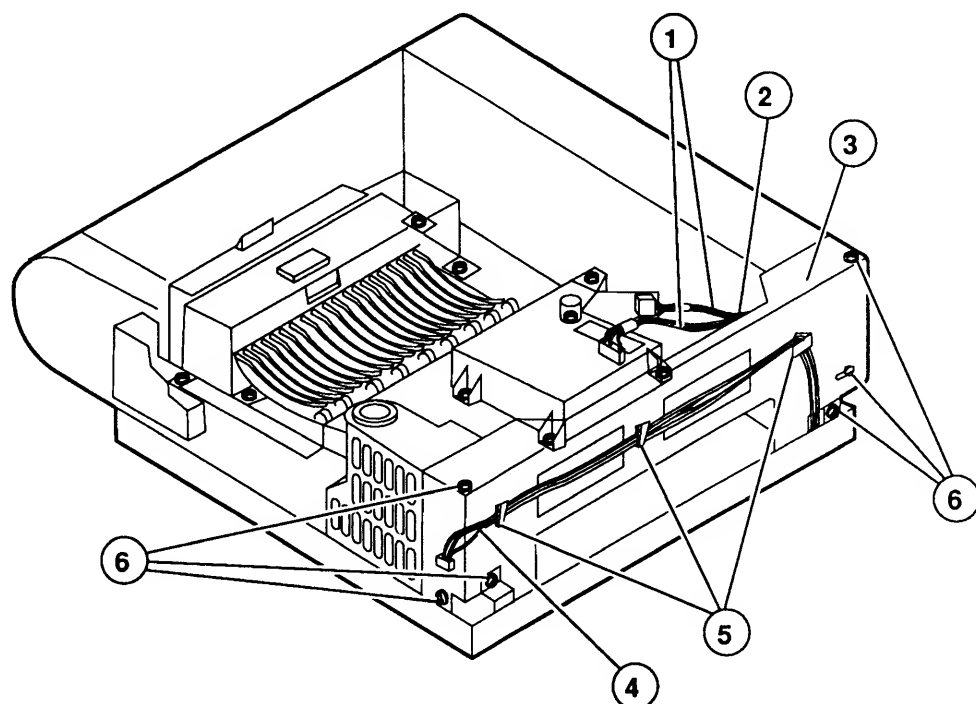

FIGURE 31
2. Remove the laser/scanner cables (Figure 31, #1) from the cable clip (Figure 31, #2) behind the right support plate (Figure 31, #3).
3. Remove the status panel cables (Figure 31, #4) from the three cable clips (Figure 31, #5) on the right support plate (Figure 31, 3).
4. Remove the six Phillips screws (Figure 31, #6) that secure the right support plate to the chassis, and rest the plate on the work surface next to the printer.
3. Place the right support plate in position and replace the six Phillips screws. Refer to Figure 31 if necessary.
4. Replace the laser/scanner cables in the cable clip behind the right support plate. Refer to Figure 31 if necessary.
5. Replace the status panel cables in the three cable clips on the right support plate. Refer to Figure 31 if necessary.